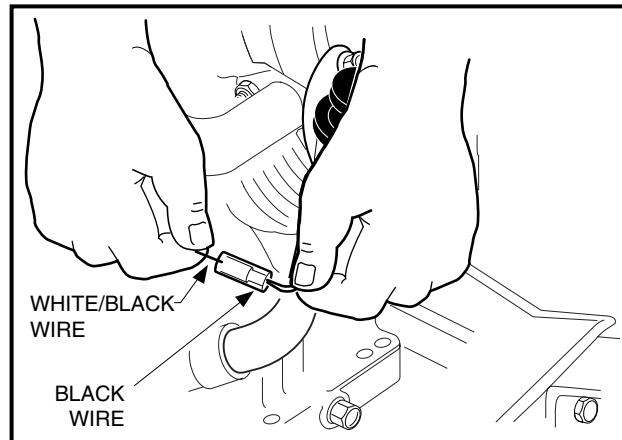

Figure 16-20 Engine Kill Switch Wire
- 5.15. Disconnect the engine kill switch wire (18-gauge white/black) from the bullet connector at the lower right front of the engine (**Figure 16-20, Page 16-10**).